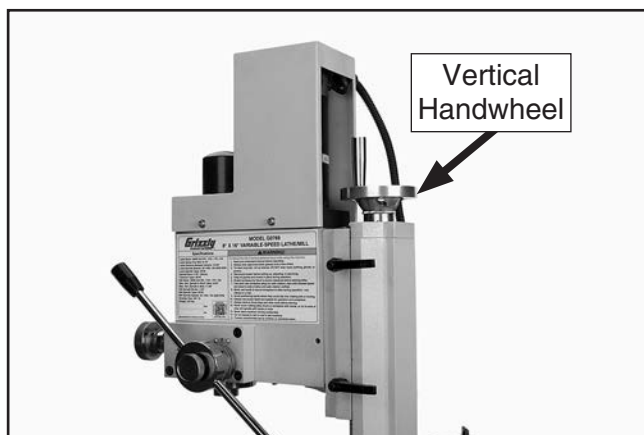

Figure 103. Location of Z-Axis handwheel.
3. Use vertical handwheel shown in **Figure 103** to adjust headstock height.
1. Use vertical travel handwheel (see **Figure 103** on next page) to adjust cutting tool just above workpiece surface, then secure the headstock with Z-axis lock levers.